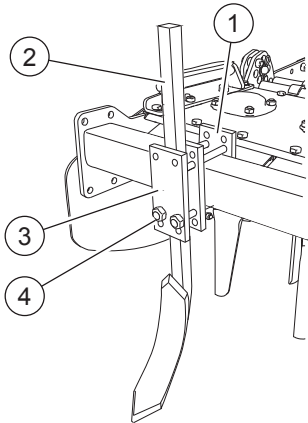

FIG. 17
Fit the track eradicator support (1, "Fig. 17") onto the front bar. Insert track eradicator (2) between the plates (3). Adjust height from the ground. Tighten nuts (4).